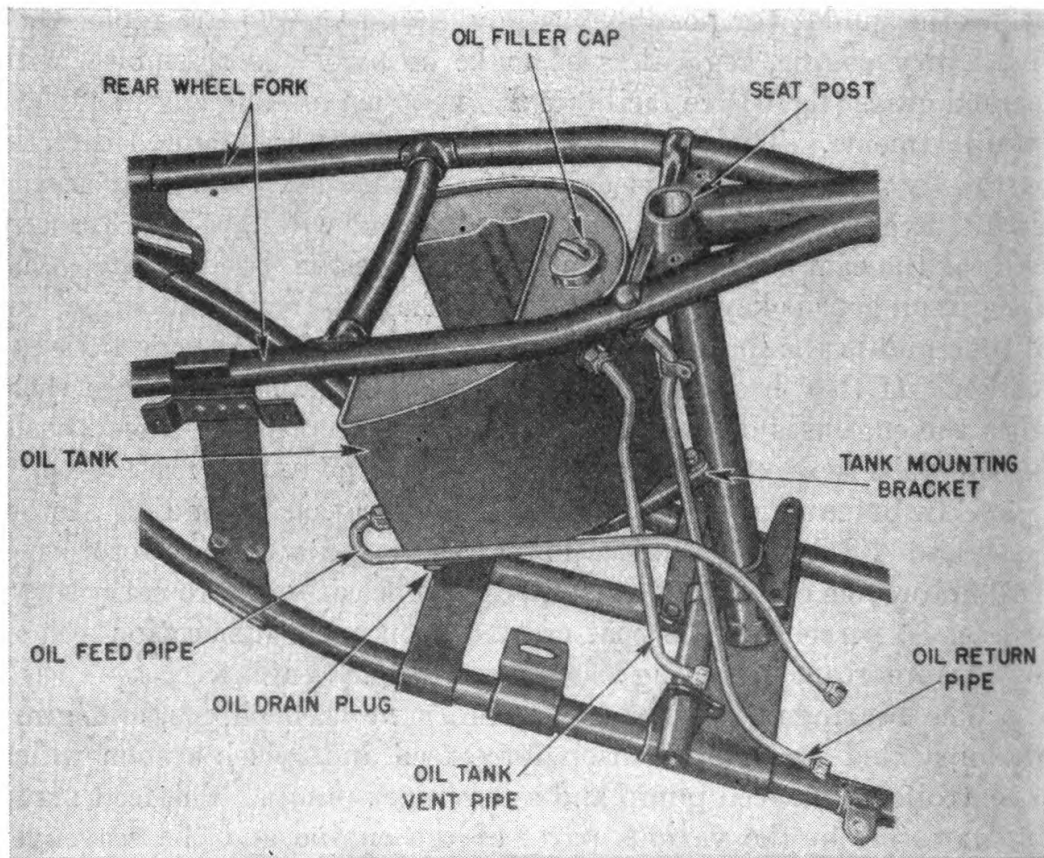
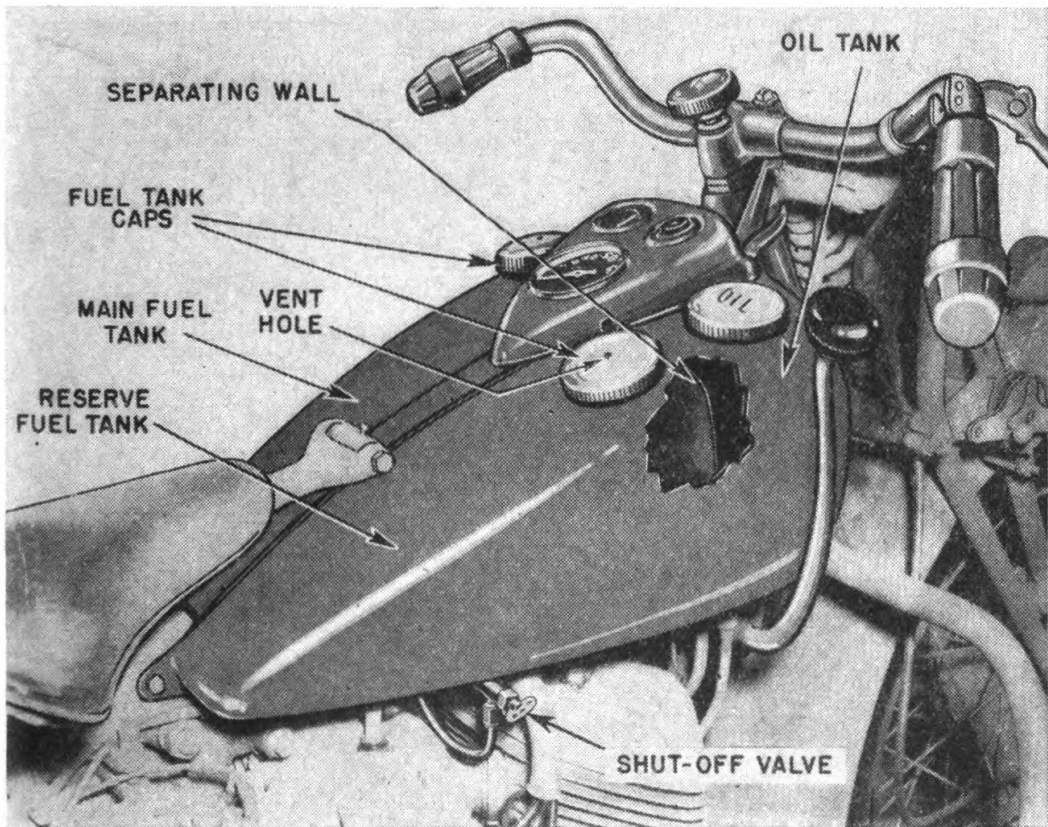

FIGURE 66.—Separate oil tank mounted under seat.
FIGURE 79.—Location of gasoline and oil tanks.
a. The bearings, piston rings, cylinder walls, bushings, and gears are lubricated by a combination force feed and splash system which is controlled by a feed pump and a scavenger pump. The feed pump circulates oil to the various parts of the engine and the scavenger pump returns the oil to the tank. The oil is cooled as it flows through exterior return pipes. Some motorcycles have a separate oil tank, mounted on the frame in back of the seat post, as shown in figure 66. On other models, the reserve fuel tank has a small built-in compartment with a separate filler neck for storing the oil. (See fig. 79.)
**67. Fuel tanks.**—The motorcycle fuel tank is made of pressed light-gage sheet-metal sections, which are soldered together. Two separate containers, placed side by side and bolted to the top frame member as shown in figure 79 make up the complete fuel tank. One
*b. Shut-off valve.*—At the bottom of each tank is a separate shut-off valve (fig. 79) connected to a single pipe leading to the carburetor